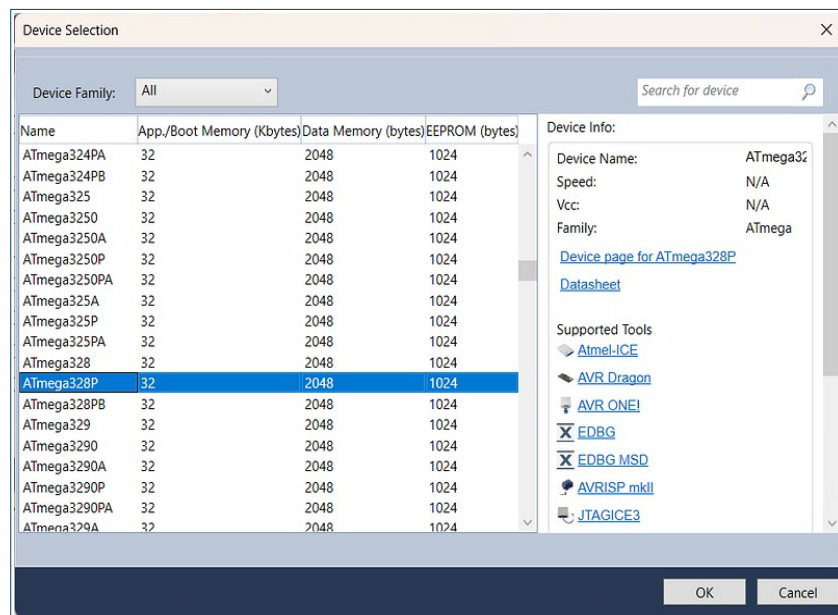

Figure 3: Device Selection (ATmega328P)
- 1.2 Select **ATmega328P** as the target device (see **Figure 3**) and click the “OK” button.